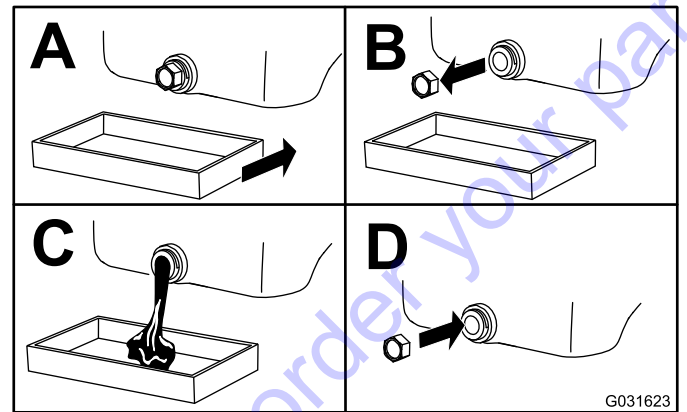

Figure 25
- A. Remove the drain plug and allow all of the existing oil to drain out of the engine (Figure 25).
B. Install the drain plug (Figure 25). Torque the plug to 13.6 N·m (10 ft-lb).